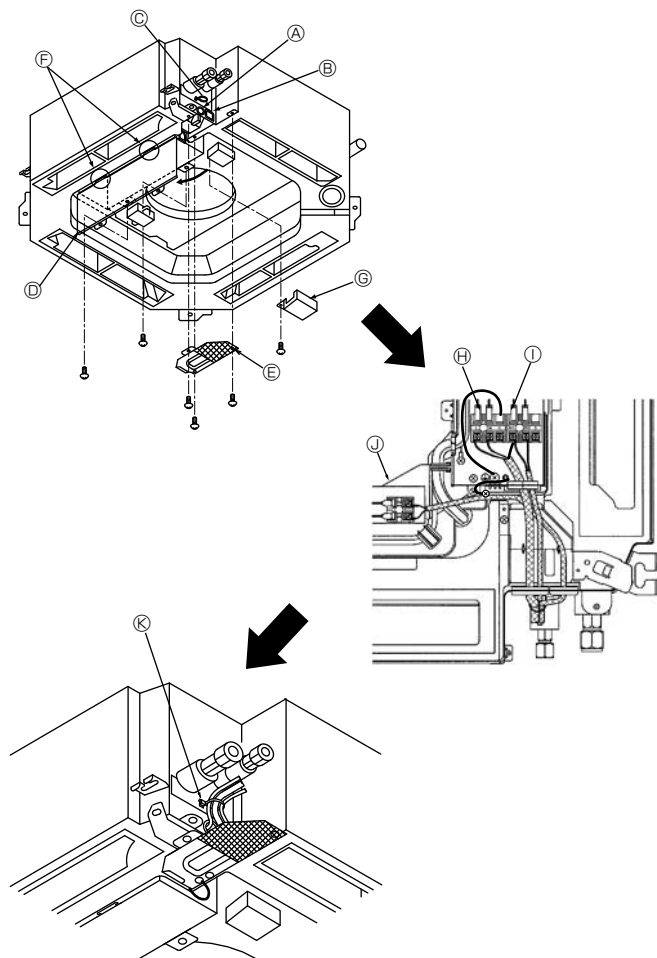

Fig. 4-1
4.1. Binnenapparaat (Fig. 4-1)